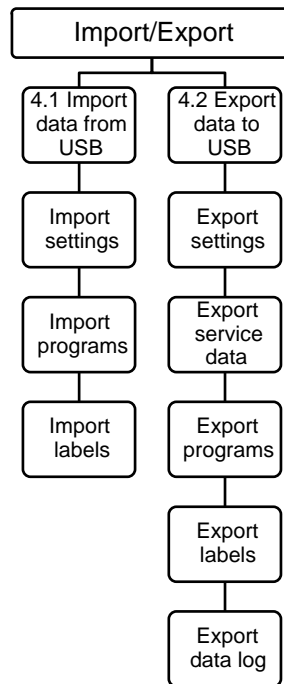

Figure 14: Overview of the Menus
*Figure 14: Overview of the Menus* on page 34 shows all possible settings for all functions. The Hardware and Service menus are only visible if you have logged in with the Dealer code.